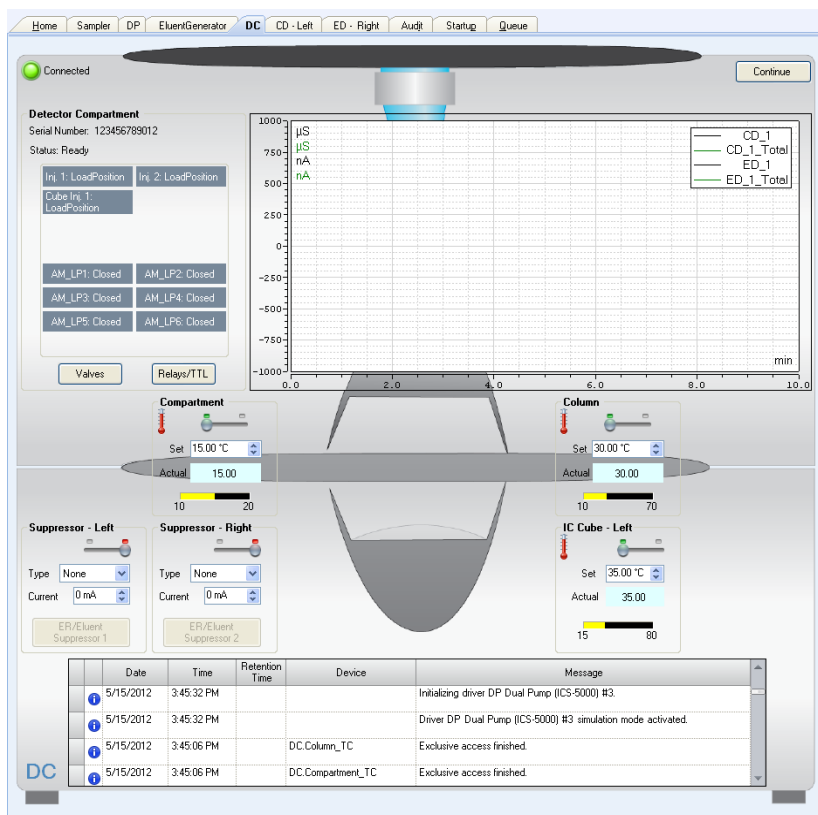

Figure 4-9. DC Control Panel (Chromeleon 7 Version Shown)
2. On the Chromeleon 7 ePanel Set or the Chromeleon 6.8 panel tabset, click the **DC** tab to display the DC panel (see Figure 4-9).